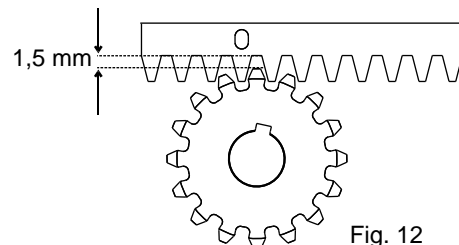

Fig. 12
**6.6.** To avoid that the door weights down on the pinion (Fig. 12) lift up the whole rack about 1,5 mm.